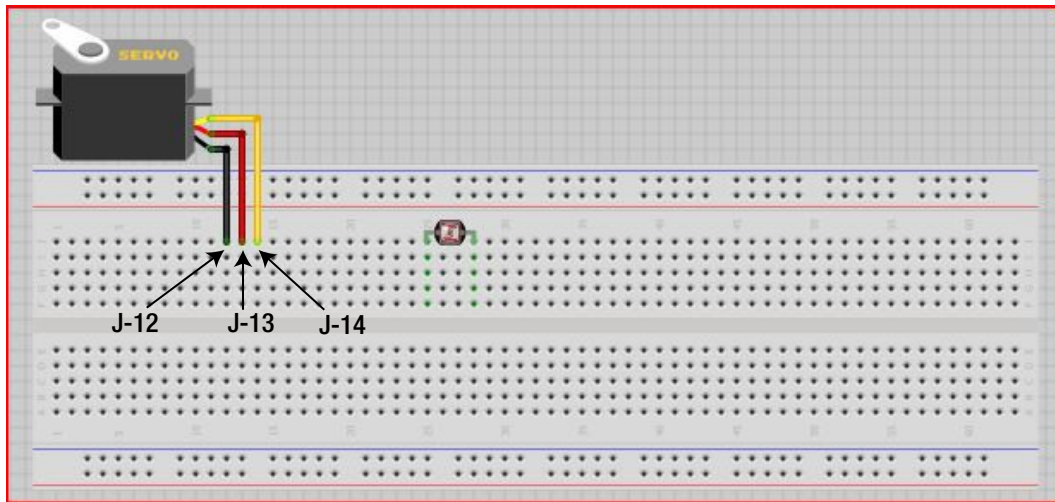

Figure 27-4. Attach the servo to the breadboard
3. Now connect the servo to the breadboard at positions J-12 through J-14, where J-12 is the ground (black wire) of the servo. Figure 27-4 illustrates this process.